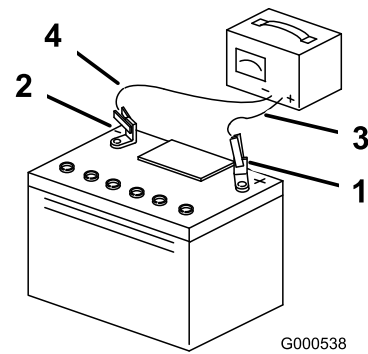

Figure 31
- When the battery is fully charged, unplug the charger from the electrical outlet, then disconnect the charger leads from the battery posts (Figure 31).